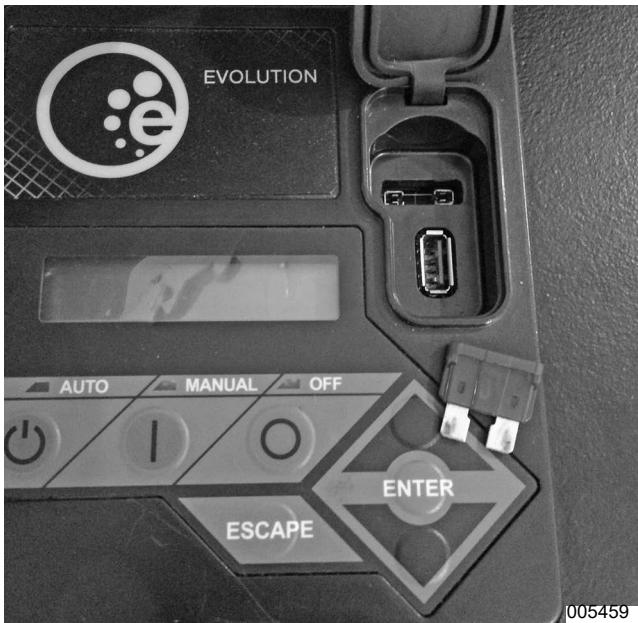

Figure 4-1. Remove 7.5 Amp Fuse
2. See Figure 4-1. Remove the 7.5 amp main fuse.